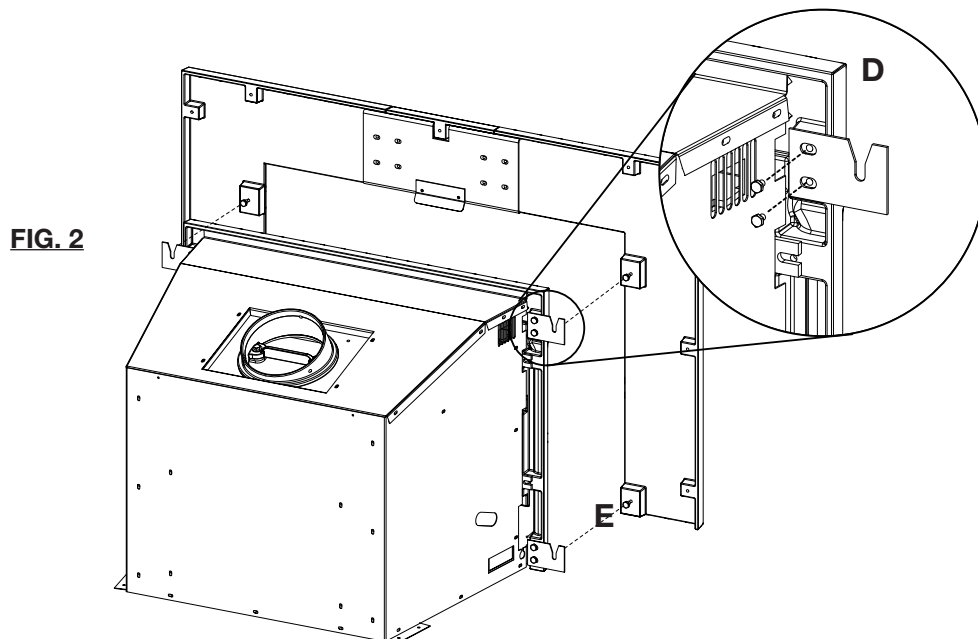

FIG. 2
- D. Using screws, secure the 4 retaining brackets in place (FIG 2, D).
- E. Lift the casting, place the screws into the retaining brackets, and tighten fully (FIG 2, E).